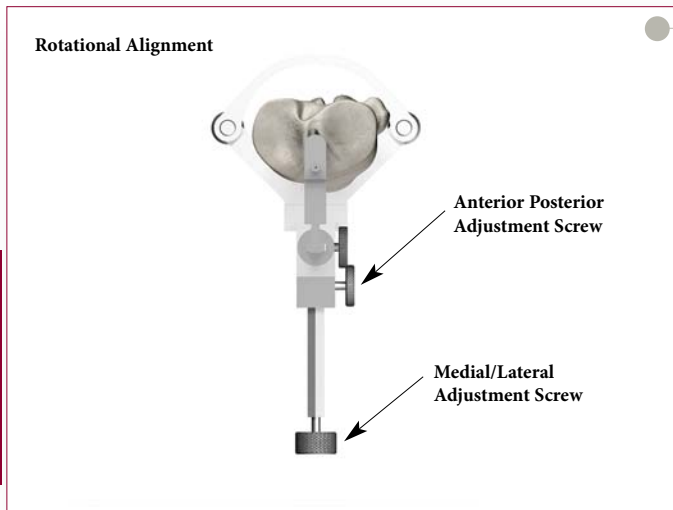

Figure 38
- ▶ Once axial alignment is established, tighten the anterior/posterior and medial/lateral adjustment thumbscrews (Figure 38).